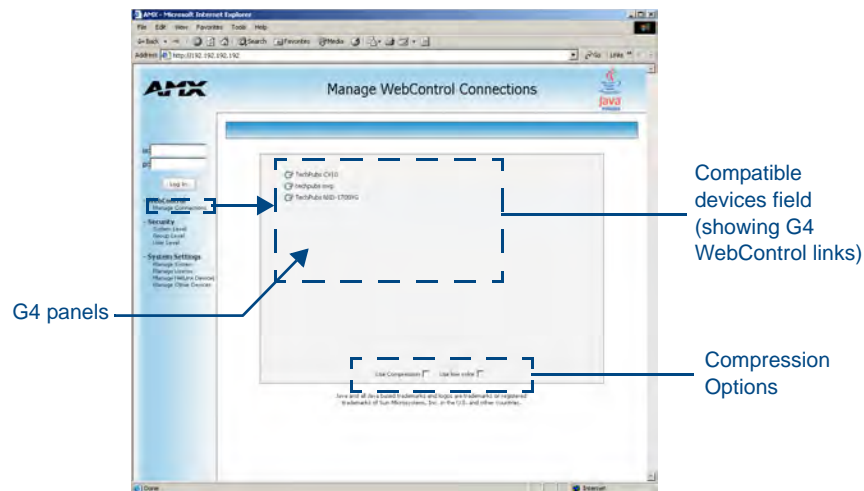

FIG. 42 Manage WebControl Connections page (populated with compatible panels)
4. Click **OK** to enter the information and proceed to the Master's *Manage WebControl Connections* window. This page (FIG. 42) is accessed by clicking on the **Manage connections** link (*within the Web Control section within the Navigation frame*). Once activated, this page displays links to G4 panels running the latest G4 Web Control feature that were previously set up and activated on the device.